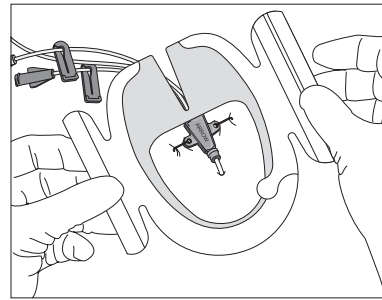

Figure 7
- Adhere center of transparent window over insertion site, while holding the notched portion off the skin (refer to Figure 7).